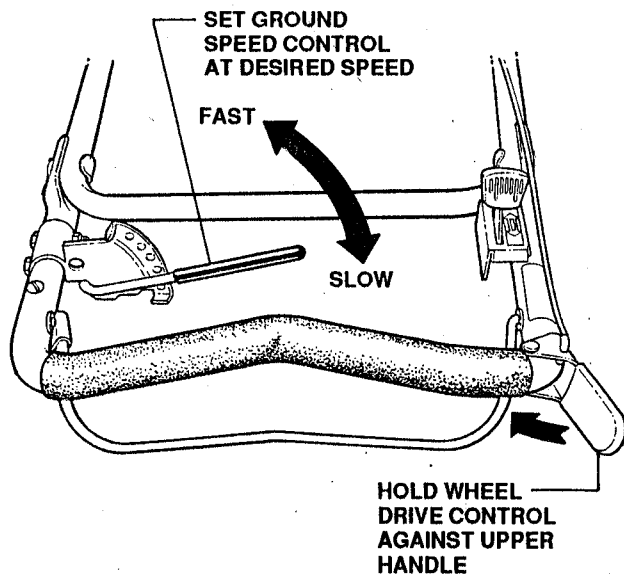

FIGURE 2.6
2. Set the ground speed control lever at the desired speed. See Figure 2.6.
3. Hold the wheel drive control against the upper handle. The mower will now begin to move forward. To stop forward motion, release the wheel drive control. The mower can then be pushed forward or pulled backward for trimming. Refer to Figure 2.6.